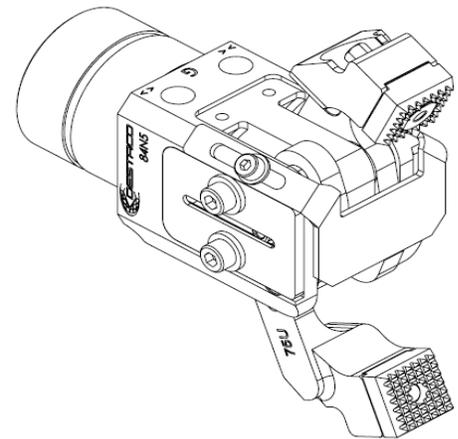

Fig.5
3. Insert the new Blank Stop on the chamfered face of the gripper body and tighten it with the M4 screw using 3mm Allen key to 6Nm (see Fig.5).